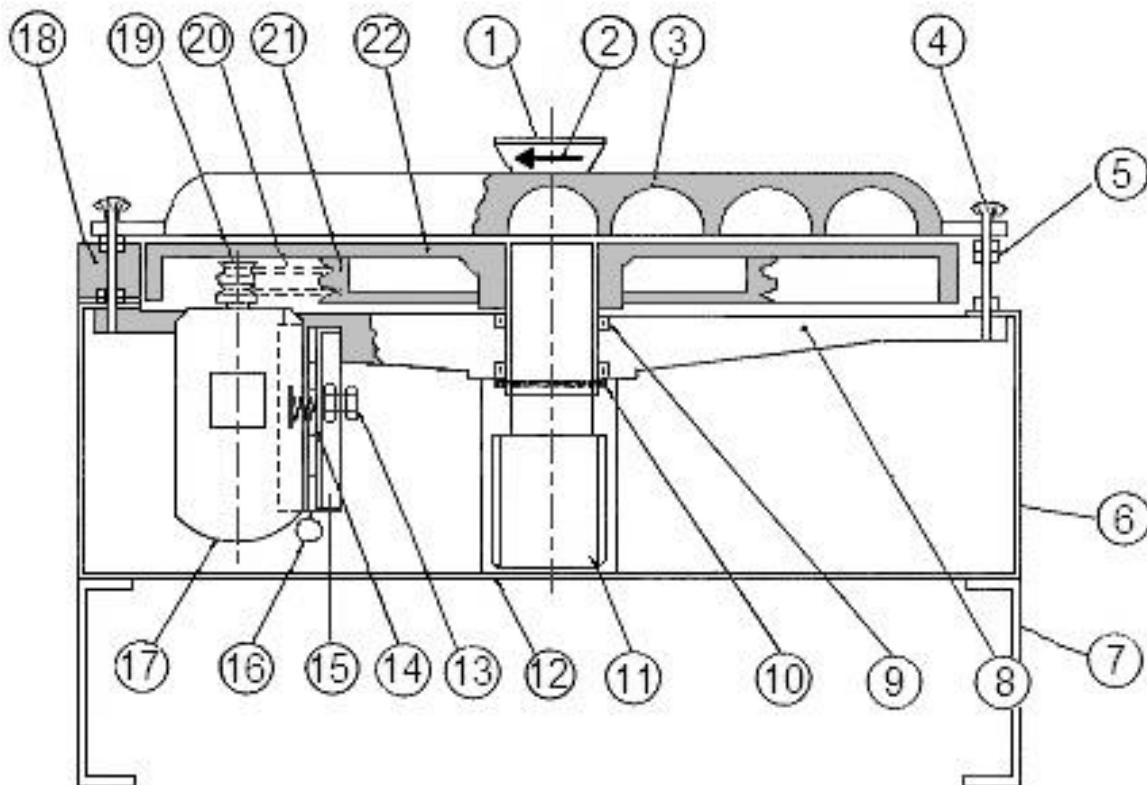

Fig. 7.1
After having connected the machine check that the DIRECTION OF ROTATION corresponds to that indicated by the arrow (Fig. 7.1. n° 2), if this is not the case, stop the machine, unplug it and invert the polarity of the wires in the plug.
If the rotating disk (Fig. 7.1. num. 22) makes too much noise rubbing against the head (Fig. 7.1. num 3), turn off the machine and adjust the nuts (Fig. 7.1. num.5)
**If the disk tends to get stuck whilst working, adjust the belt tension with the motor's belt tensioning screws (Fig. 7.1. num. 13).**